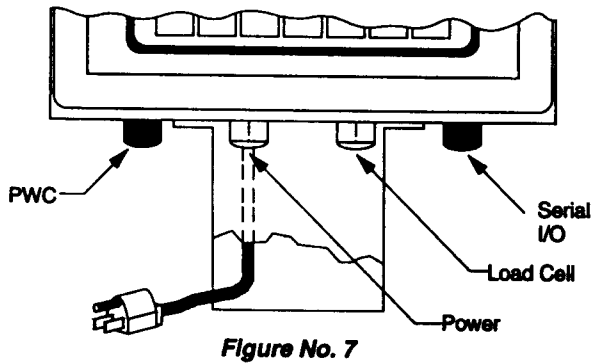
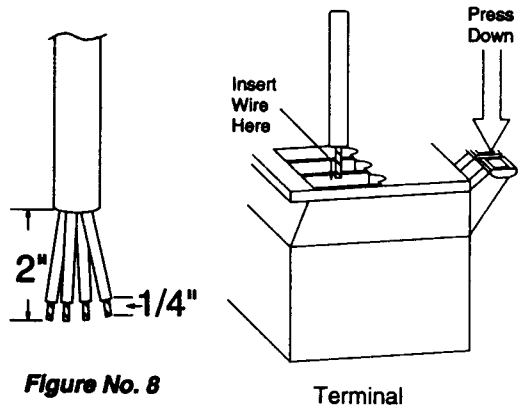
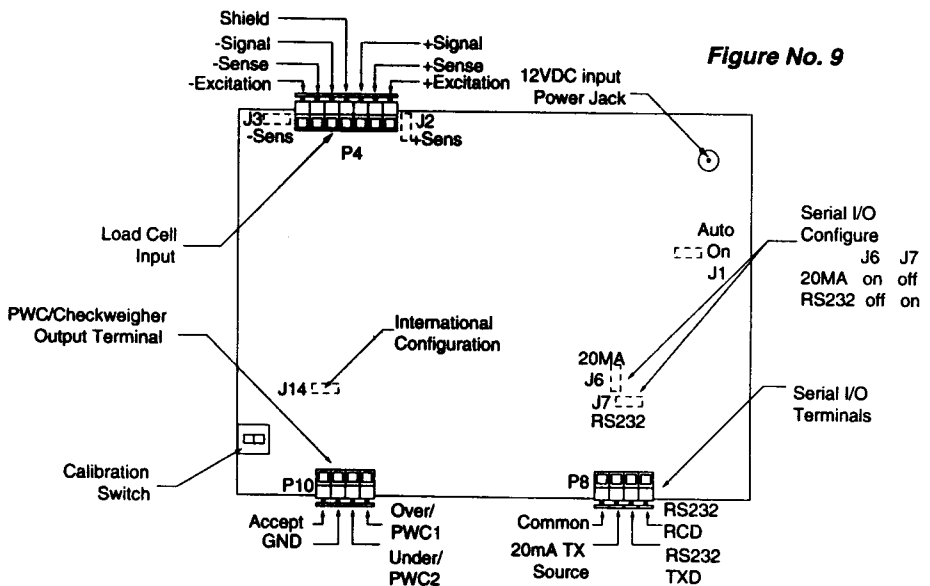

Figure No. 7
Figure No. 8
Figure No. 9
The AUTO-ON jumper J1, when connected, will cause the indicator to power on automatically whenever power is applied to the power input connector. If power is lost momentarily and then reapplied, the indicator will turn on without pressing the ON key. See Figure No. 9 for location.
Install the International/Domestic jumper, J14, to comply with OIML requirements (see Figure No. 9). With J14 installed, the 708 will perform the following functions:
Loosen the cable gland connector for the load cell cable. This gland connector is located on the bottom of the enclosure on the right-hand side. Refer to Figure No. 7 for an illustration of the connector layout.
Slip the single cable from the load cell or load cell junction box through the gland connector and into the enclosure. Remove 2 inches of the outer insulation jacket then remove 1/4 inch of insulation from each of the wires (either 4 or 6). Refer to Figure No. 8 for an illustration of the proper method of preparing and then connecting wires to the terminal blocks. Once the cable has been properly prepared, connect it to terminal block P4 on the main printed circuit board. Figure No. 9 shows the location of the terminal blocks on the main printed circuit board.
Loosen the gland connector adjacent to the power cable gland connector (see Figure No. 7). Remove 2 inches of the outer insulating jacket from the cable then remove 1/4 inch of insulation from each of the wires (see Figure No. 8). These wires are to be connected to terminal block P8 at the bottom edge of the printed circuit board. Refer to Figure No. 9 for the location of this terminal block.
Sense lead jumpers are not installed for four (4) wire load cells. Install both SENS jumpers (see Figure No. 9);